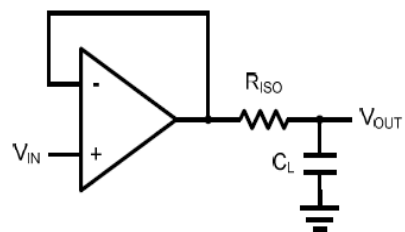
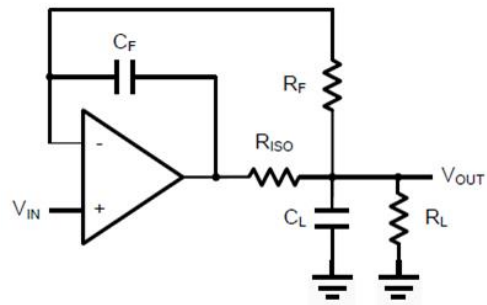

Figure 2. Indirectly Driving a Capacitive Load Using Isolation Resistor
Figure 3. Indirectly Driving a Capacitive Load with DC Accuracy
The SV321 family is optimized for bandwidth and speed, not for driving capacitive loads. Output capacitance will create a pole in the amplifier's feedback path, leading to excessive peaking and potential oscillation. If dealing with load capacitance is a requirement of the application, the two strategies to consider are (1) using a small resistor in series with the amplifier's output and the load capacitance and (2) reducing the bandwidth of the amplifier's feedback loop by increasing the overall noise gain. Figure 2. shows a unity gain follower using the series resistor strategy. The resistor isolates the output from the capacitance and, more importantly, creates a zero in the feedback path that compensates for the pole created by the output capacitance. The
bigger the  $R_{ISO}$  resistor value, the more stable  $V_{OUT}$  will be. However, if there is a resistive load  $R_L$  in parallel with the capacitive load, a voltage divider (proportional to  $R_{ISO}/R_L$ ) is formed, this will result in a gain error. The circuit in *Figure 3* is an improvement to the one in *Figure 2*.  $R_F$  provides the DC accuracy by feed-forward the  $V_{IN}$  to  $R_L$ .  $C_F$  and  $R_{ISO}$  serve to counteract the loss of phase margin by feeding the high frequency component of the output signal back to the amplifier's inverting input, thereby preserving the phase margin in the overall feedback loop. Capacitive drive can be increased by increasing the value of  $C_F$ . This in turn will slow down the pulse response.